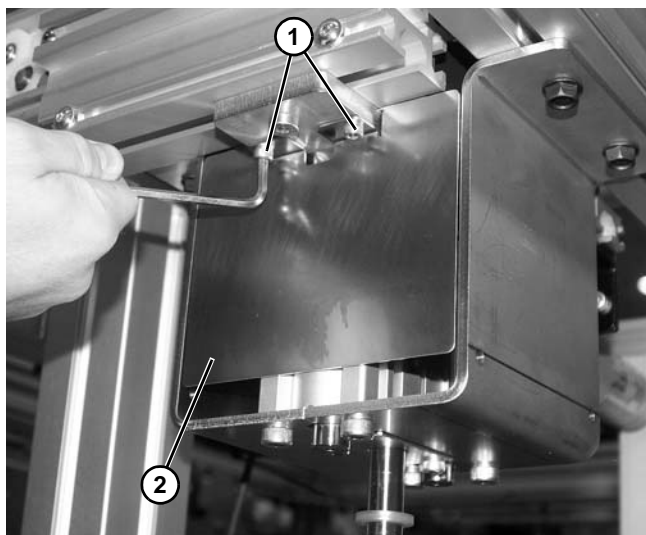

Figure 33
2. Remove two screws (Figure 33, item 1) and remove side guard (Figure 33, item 2).